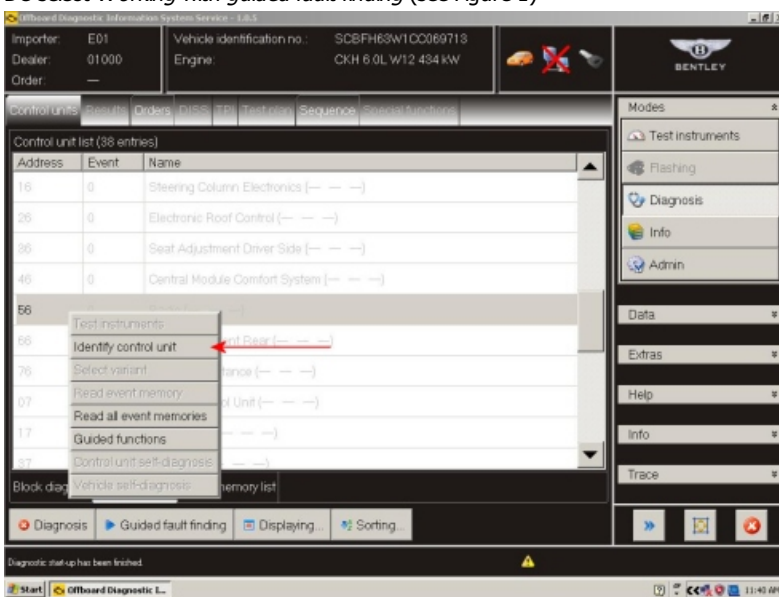

Figure 2
4. In Control units select 56 – Radio. Touch, hold then release the selected box to reveal drop down menu then select *Identify control unit* (see Figure 2)